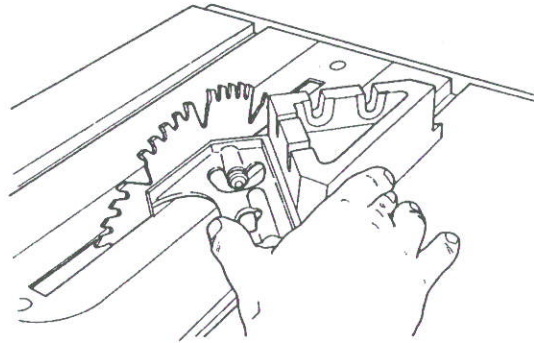

Fig.1
4. Place the 45 degree side of combination square against the saw blade, and hold the 90 degree side against the infeed side of the Miter Pro's casting (1). See Fig.1. Look for any gaps between the blade and the square.